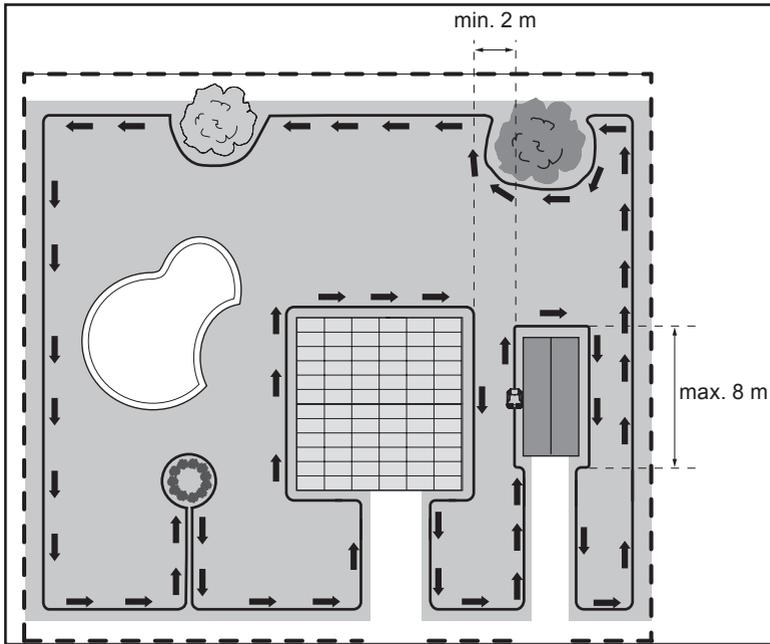

Fig. 9
- To create a passage between two sections of lawn within the boundary, it is recommended that the corridor be a minimum of 2 metres wide and a maximum of 8 metres in length (Fig. 9). If a corridor is too narrow or too long, the machine might not be able to navigate it from one end to the other.